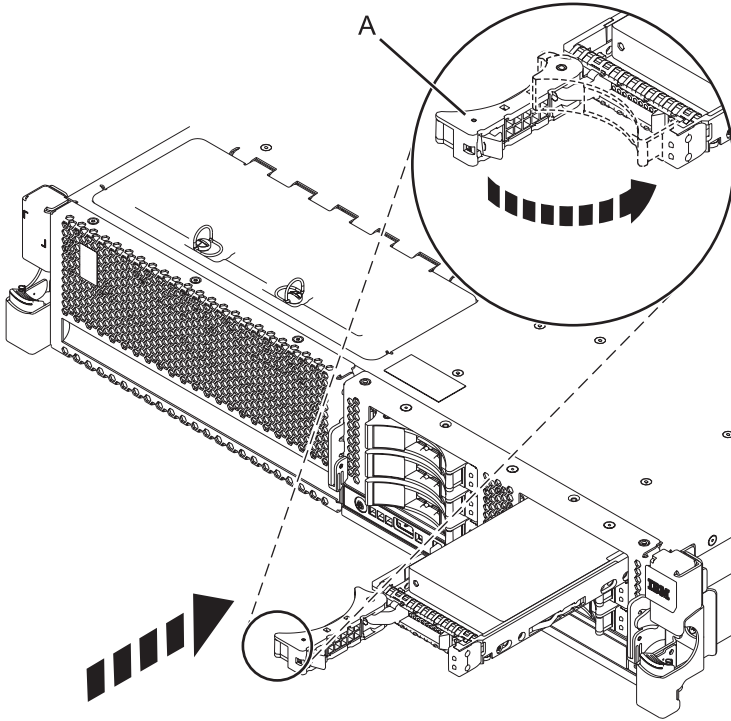

Figure 25. Installing a disk drive in the system
4. Slide the disk drive or solid-state drive all the way into the system or an expansion unit, and push the disk drive or solid-state drive handle (A) in until it locks. See Figure 25 on page 44.